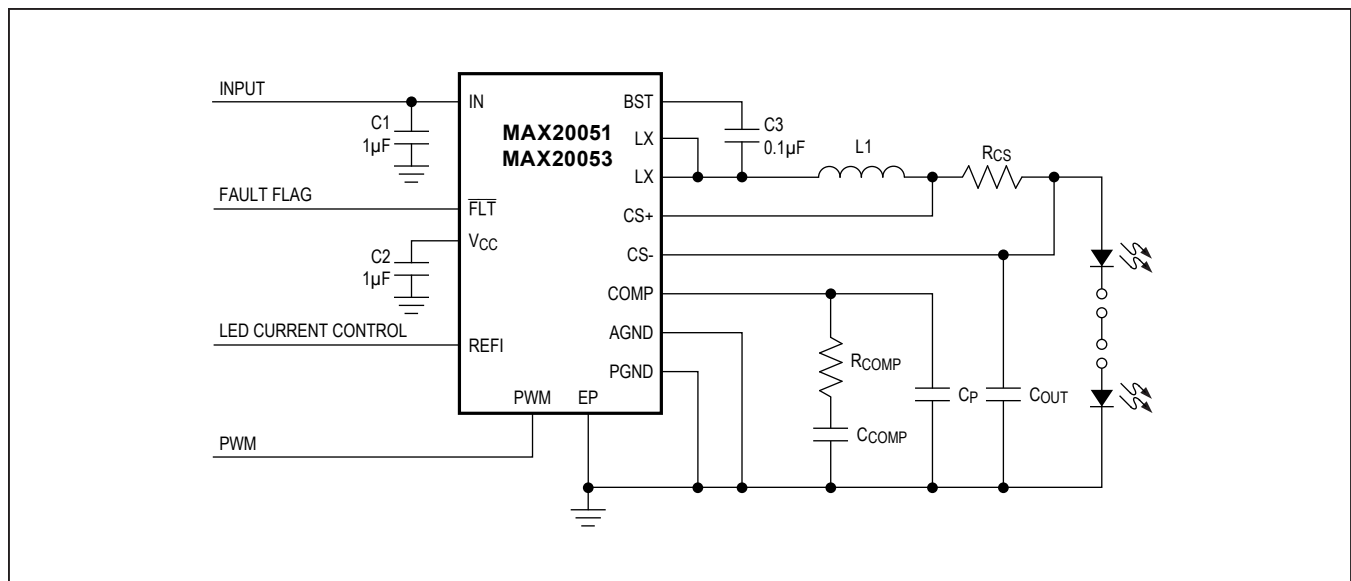

Figure 3. Typical Application Circuit Using the MAX20051
Normal sensing of the LED current should be done on the high side where the LED current-sense resistor is connected to the inductor. The other side of the LED current-sense resistor goes to the anode of the external LED string. The LED current is programmed using  $R_{CS}$  (see Figure 3). When  $REFI$  is set to a voltage  $>1.3V$ , the internal reference regulates the voltage across  $R_{CS}$  to 220mV. The current is given by:
The MAX20050/MAX20052 have internal loop compensation and there is no user-available adjustability of the loop compensation components. In the case of the MAX20051/MAX20053, an external COMP pin is present and an external compensation network is required for stable operation. See Figure 3 for the typical application circuit using the MAX20051.
- 1) Large switched currents flow in the IN and PGND pins and the input capacitor C1 of Figure 3. The loop formed by the input capacitor should be as small as possible by placing this capacitor as close as possible to the IN and PGND pins. The input capacitor, device, output inductor, and output capacitor should be placed on the same side of the PCB and the connections should be made on the same layer.